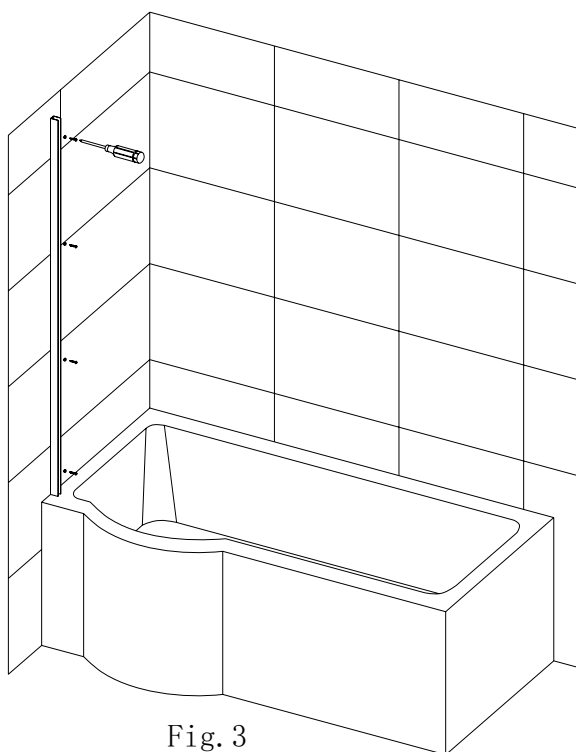

Fig. 3
- 3) Use screws M4x30 to fix the wall profile1 (on the wall .As Fig.3